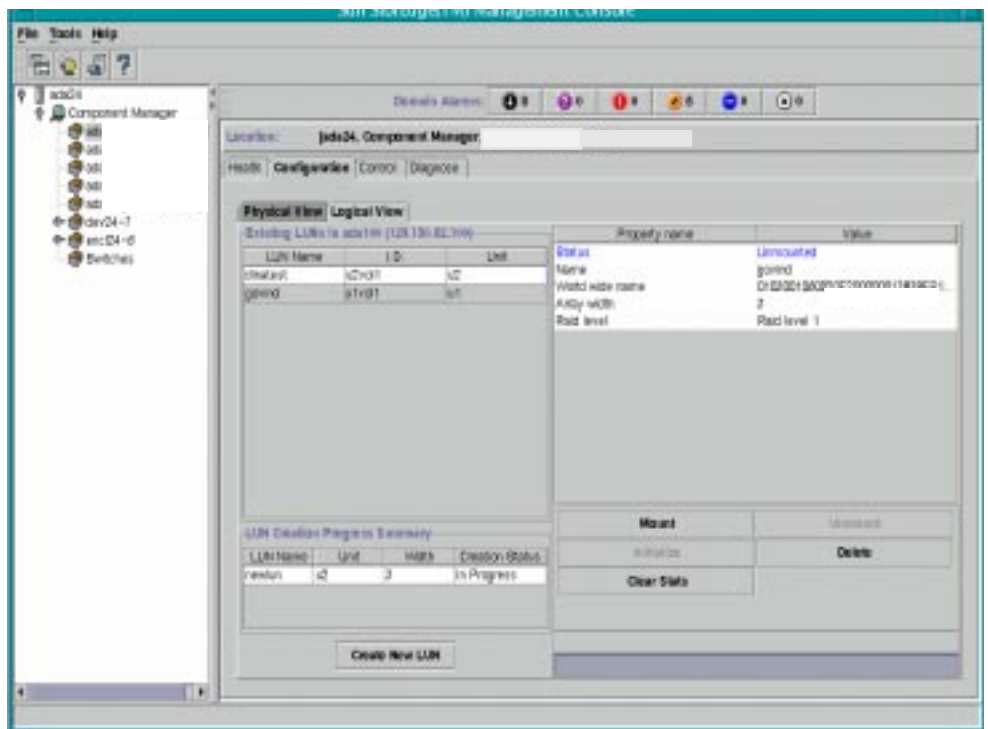

FIGURE 4-17 Created LUN Operations
See FIGURE 4-17.
5. **Delete the LUN by clicking the Delete button (see FIGURE 4-17).**
5. **Clear the statistics by clicking the Clear Stats button (see FIGURE 4-17).**